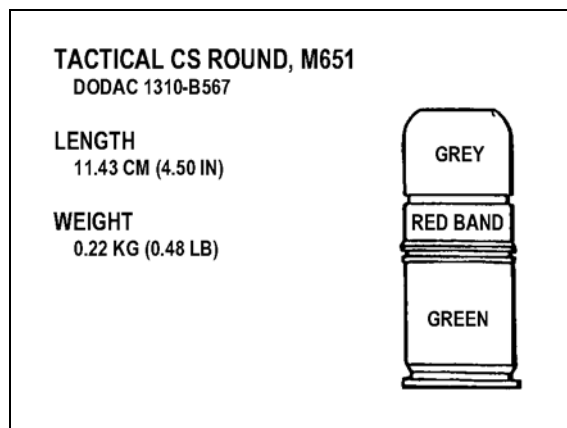

Figure 3-16. CS round.
(7) *CS Round*. This round is gray aluminum with a green casing and black markings (Figure 3-16). Though it is a multipurpose round, it is most effective for riot control and